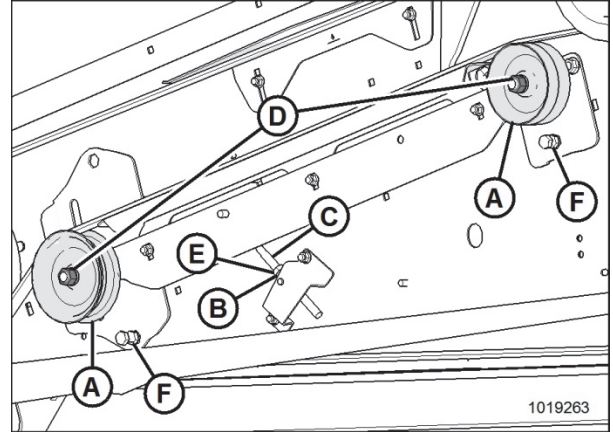

Figure 3: LH Knife Drive
2. If the belt (A) is tracking to one side of the idler pulley (C), the likely cause is an out-of-position idler pulley. To fix it, adjust the idler position using the push bolts (F in Figure 3) on the idler supports.